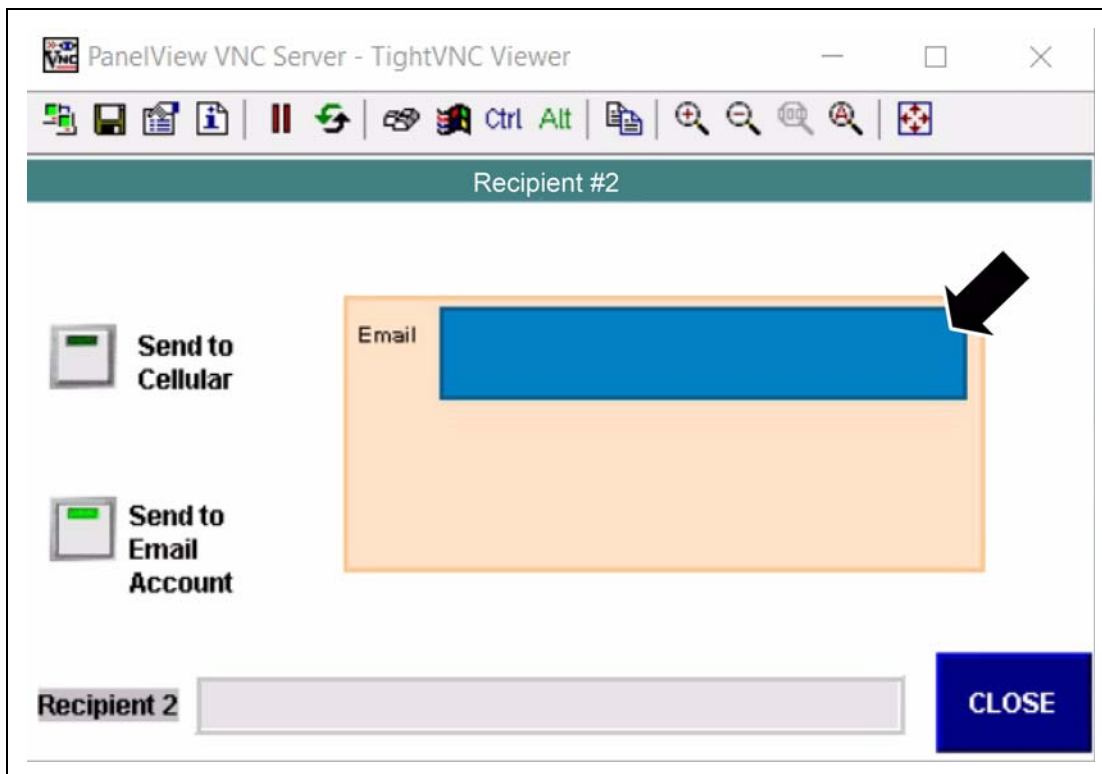

Figure 6G
6. Click on the blue Email entry box. A keypad will pop up so you can enter the address. When finished, press the return key to close the keypad. The email address should show up in the grey box for Recipient 2. Press the Close button when complete. (See Figure 6G.)